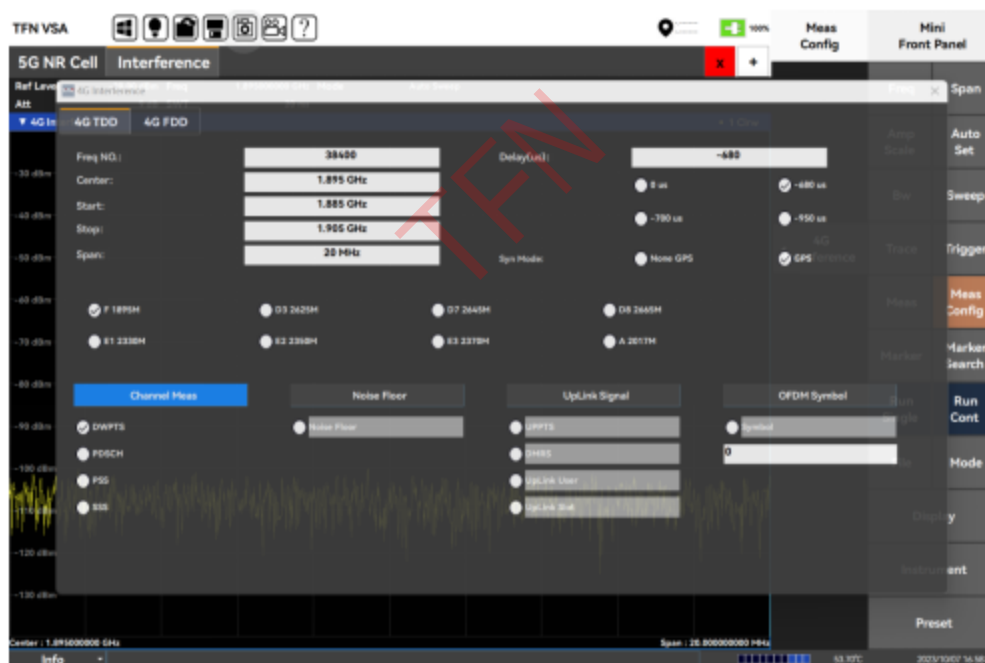

Figure 7.24 4 GTDD interference mode selection
- Select [GPS] synchronization, 4 GTDD interference selection interface is shown in Figure 7.24:
in Figure 7.24: